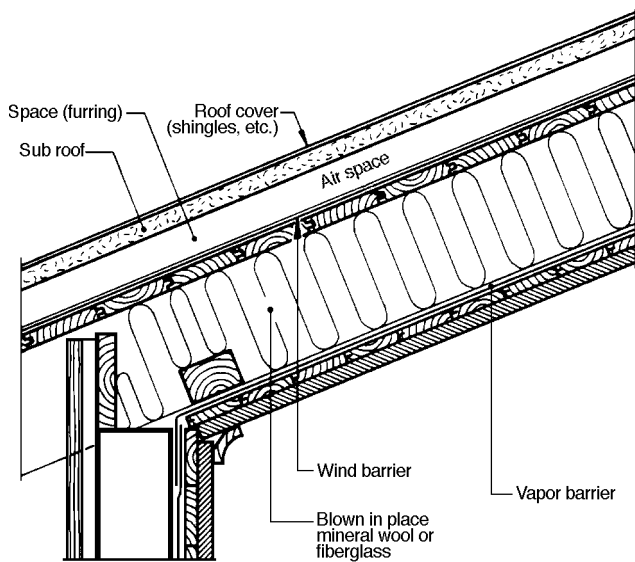

Figure 2.33
2.33 By building up a new roof on the old roof it is possible to insulate by blowing mineral wool into the hollow space. See Figure 2.33 and Point 2.13.